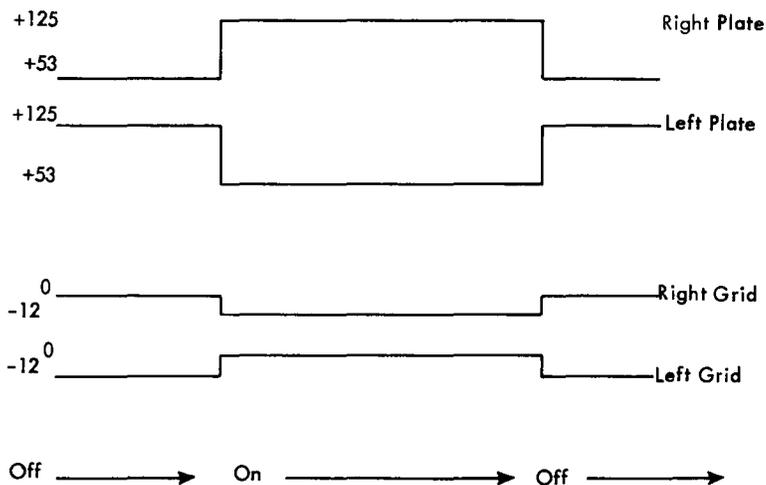

FIGURE A10. HIGH SPEED TRIGGER (T)
A trigger is said to be on when its left tube is conducting. Therefore, the left side is called the "on-side," and the right side is the "off-side." In the "on" state, the left grid is up, the right plate is up, the right grid is down, and the left plate is down (Figure A10). If a trigger is used for storing binary information, it is storing a one when on and a zero when off.
Because either side of a trigger can go into conduction when power is first applied, a provision must be made to establish a specific status. The trigger may be reset with the output of the reset cathode follower ( $K_R$ ) applied at the desired reset point. The reset cathode follower is usually preceded by either the pulse forming inverter ( $I_{PF}$ ) or a single shot (SS). The reset point is the plate of the -12v clamp diode. The reset cathode follower provides -12v as a clamp voltage and changes to zero volts for reset. Bringing the plate of the clamp diode to ground forces a non-conducting grid up; that side of the trigger goes into conduction. The reset pulse lasts long enough to insure that the regenerative action is complete. The notation of reset is placed in the title section of the logic block (Figure A10). The notation on the left indicates "reset on" and on the right indicates "reset off." A trigger may have several resets, but only one takes place at a time. The origin of the reset is marked on the Systems page.
A manual method of flipping helps to test the trigger circuit. The points in Figure A10 marked "manual on" or "manual off" are wired to pins on the panel. If a trigger is on and the manual-off pin on the panel is touched by a tweaking probe, the trigger is flipped off. The tweaking probe is merely a line connected through a by-passed, high-impedance resistor to ground. The ground connection pulls the tweak points (manual points) up toward ground, thus providing a positive shift at the grid to flip the trigger. Tweaking the manual-on point turns the trigger on if it was initially off.